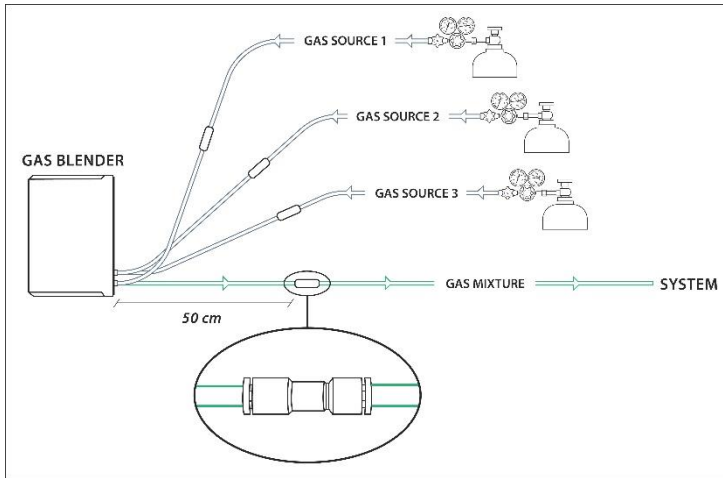

Figure 8
5. **Gas Blender Outlet** – Another One Touch valve must be positioned at a distance of 50 cm from the Gas Blender outlet to secure a proper working of the instrument. Take the 50 cm long tube and connect one end with the valve, then connect the other end to your system, as shown in the pictures below (Fig. 8).